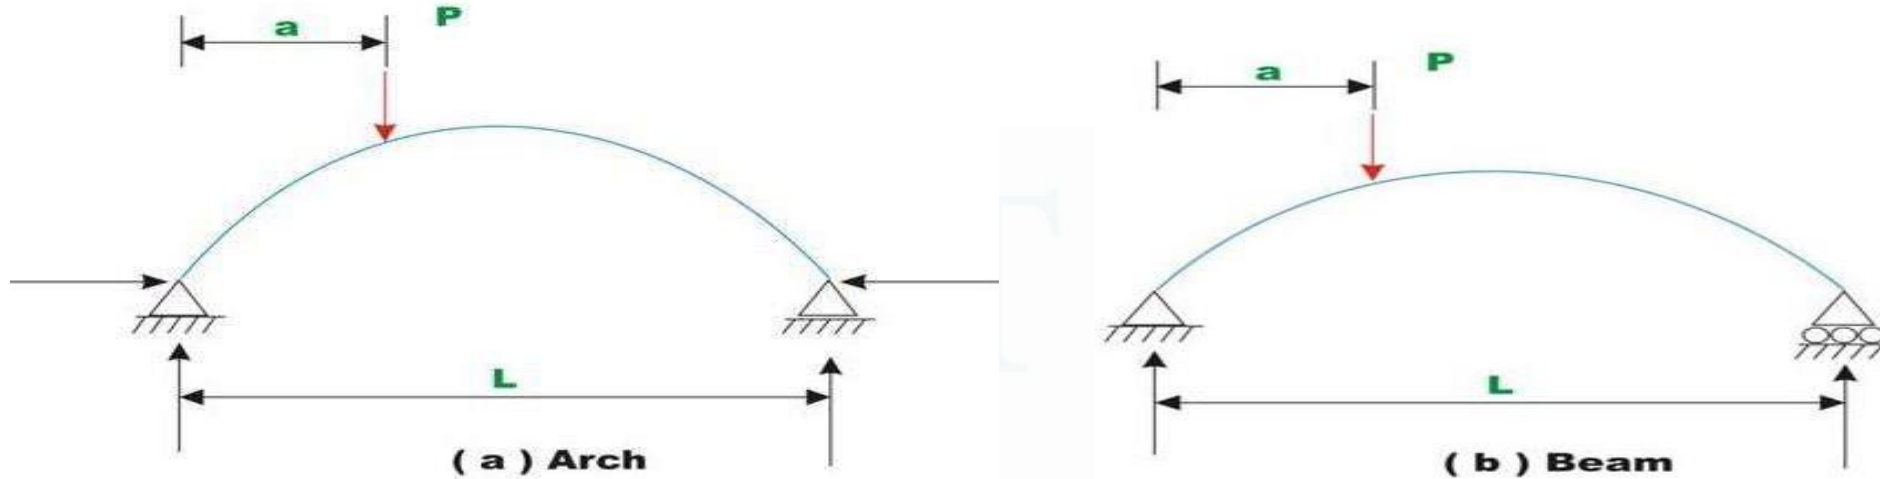

Figure 3: (a) Arch (b) Beam
- For example in Figure 3(b), no horizontal reaction is developed. Consequently bending moment is not reduced. It is important to appreciate the point that the definition of an arch is a structural one, not geometrical.